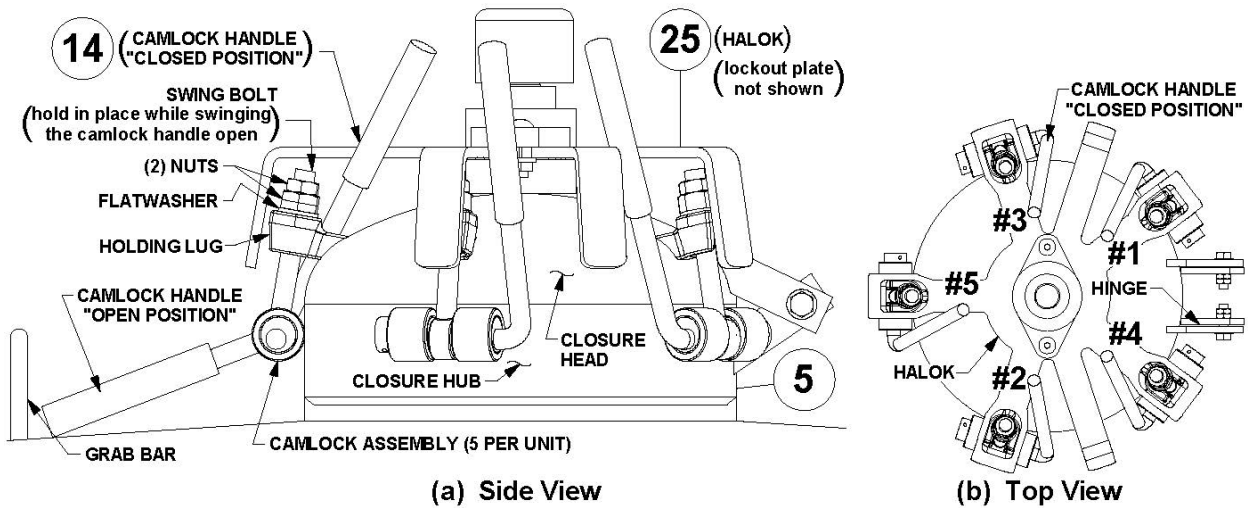

Figure 8.1 – Closure Assembly
Clean debris off all components. Replace all missing and defective components. Any camlock, swing bolt, nut, or hinge that show signs of damage, corrosion, wear, or does not swing freely must be repaired or replaced prior to re-pressurizing the blast vessel. The camlock handles must be installed into the cam lugs as shown in Figure 8.1(b) so there is no interference with closure head handle or hinges, and to insure proper operation of the closure Halok (#25). The torque on the camlock assembly nuts must be properly adjusted. See Section 8.5 for camlock adjustment.
- d) Following the numbered sequence shown in Figure 8.1 tighten each bolt in three steps.